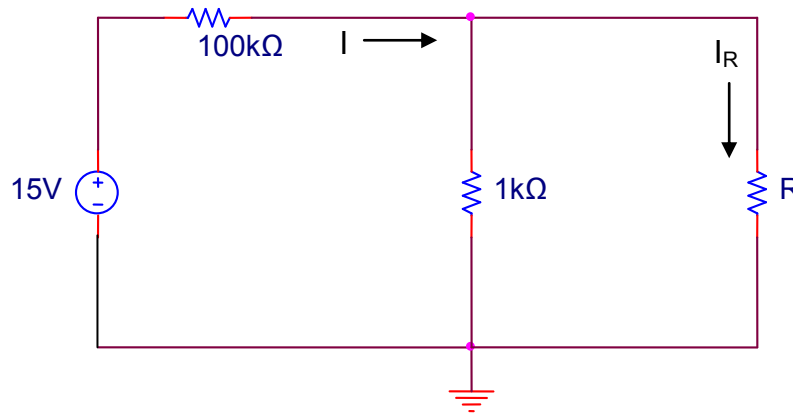

Figure 3.8
6. For the circuit in Figure 3.8, if $R = 1\text{ k}\Omega$, calculate I . Use current division to calculate I_R . Enter your results in Table 3.6. Repeat for $R = 2.7\text{ k}\Omega$ and $3.3\text{ k}\Omega$.
5. Construct the circuit of Figure 3.8. Find I and I_R for $R = 1\text{k}\Omega$, $2.7\text{ k}\Omega$, and $3.3\text{ k}\Omega$ by measuring the appropriate voltages using the DMM only and applying Ohm's Law. Enter your results in Table 3.6. Note that I is approximately constant. Why?